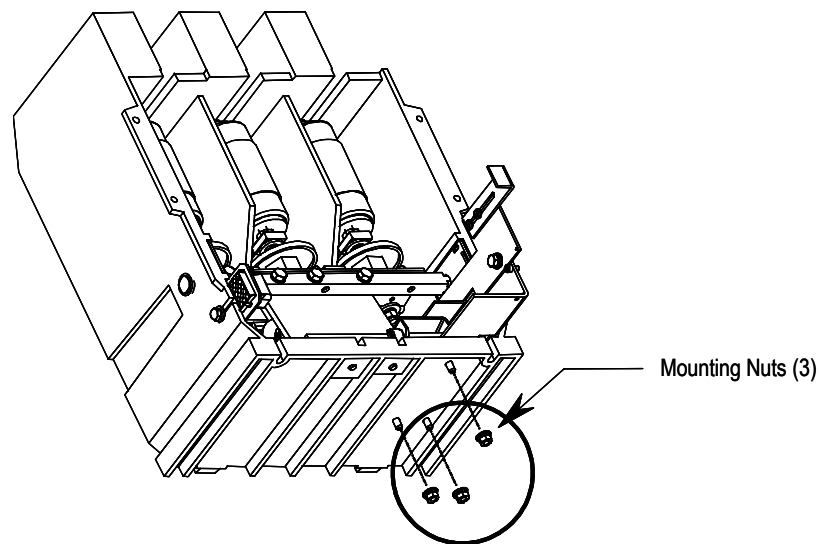

Figure 4.18 – Removal of Mechanical Latch Mounting Nuts
1. Remove the three latch mechanism mounting nuts on the underside of the contactor housing as shown in Figure 4.18 (on earlier series contactors there are four bolts). It is easiest to do this with the contactor lying on its back.